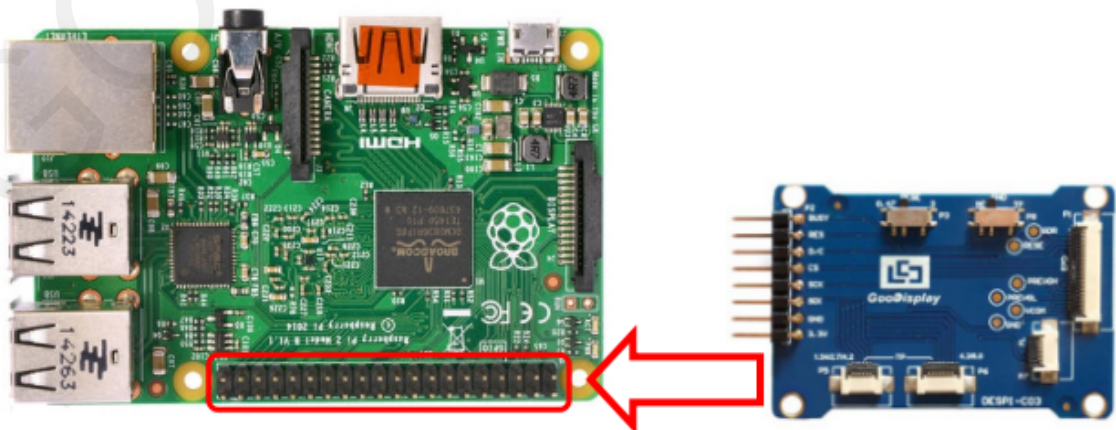
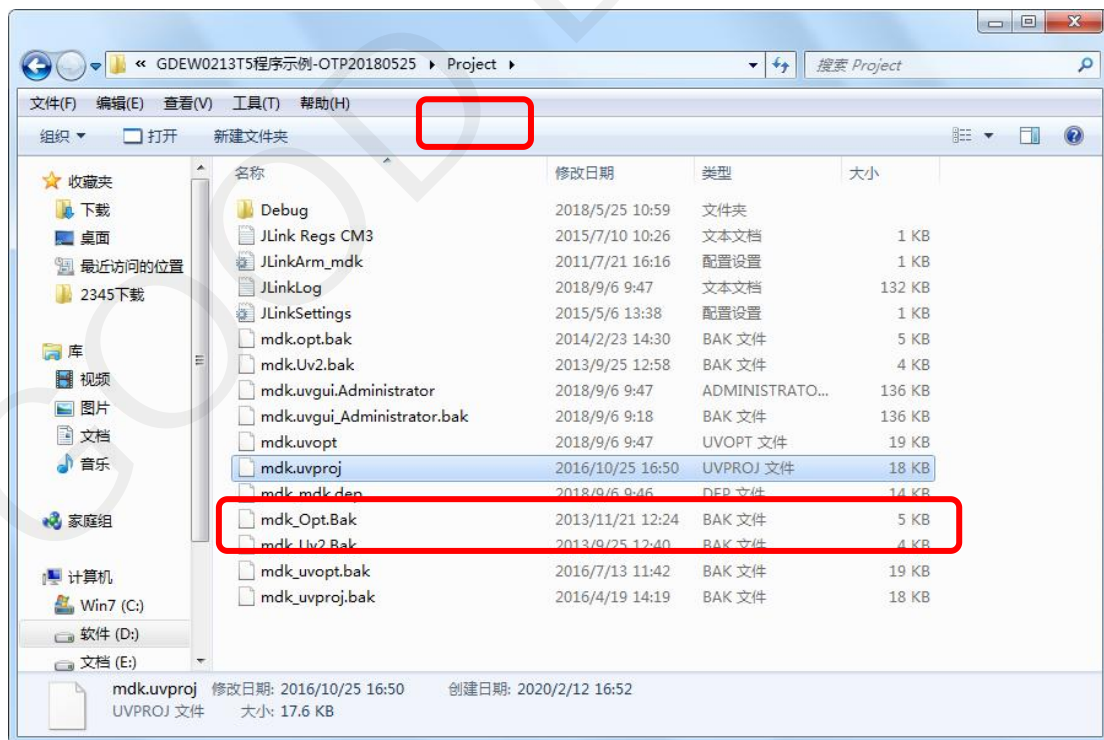

Figure 8 : Connection between DESPI-C03 and Raspberry Pi
Figure 10 : Open the mdk.uvproj
- 2) Open the "mdk.uvproj" in the program folder "Project" shown in Figure 10 with Keil4.
9) If you want to change a image, you need to use Keil4 to change the image data (Figure 10), compile it (Figure 8) to generate a new mdk.hex file, and then re-select the file to download it.